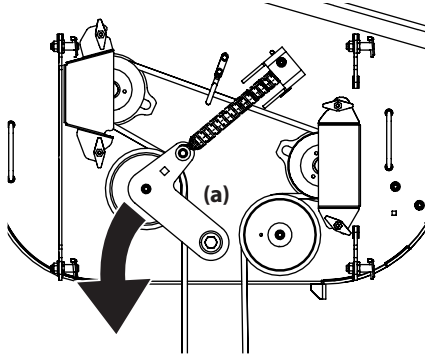
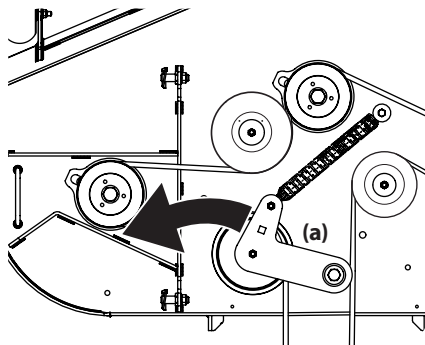

Figure 16
Figure 17
- Using a 1/2" drive in the idler pulley bracket (a), turn the wrench counter-clockwise and slide the deck belt off the PTO pulley. See Figure 16 for 36" decks and Figure 17 for 48" and 54" decks.